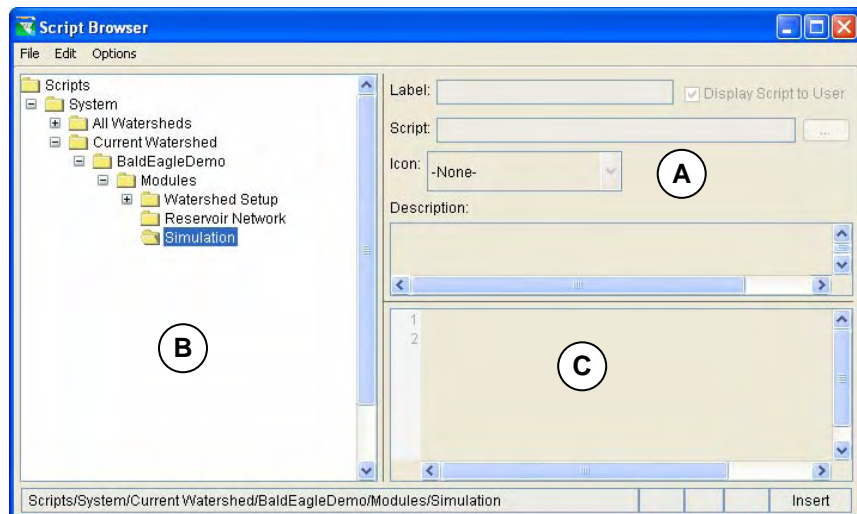

Figure 14.76 Script Browser
4. The **Script Browser** option from the **Script** menu allows access to the **Script Browser** (Figure 14.76) which is similar to the editors presented in Chapter 11 for *Scripted Rules* (Section 11.5.11) and *State Variables* (Section 11.12.4).